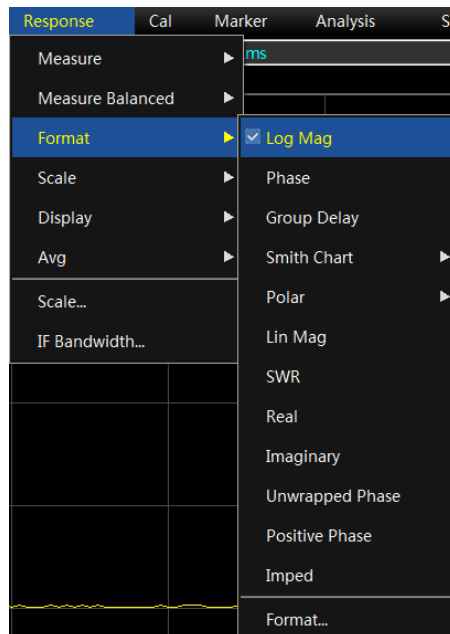

Fig. 4.25 Setting of Data Format
Smith chart shown in Fig. 4.25 is a tool to map the reflection measurement data of the DUT into impedance. Each point of the chart represents the complex impedance composed of the real resistance (R) and virtual reactance ($\pm jX$). The resistance, reactance, equivalent capacitance and inductance can be read through the marker.